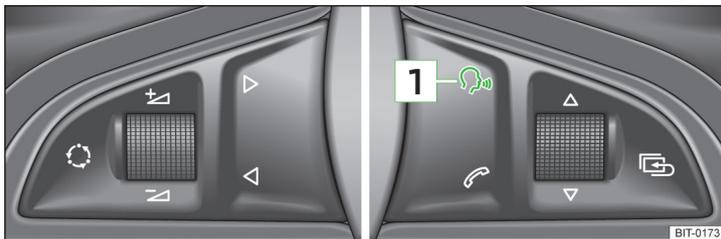

Fig. 130 Multifunction steering wheel
Briefly press button **1** » Fig. 130 on the multifunction steering wheel.
The dialogue can be started at any time by pressing the button **1** » Fig. 130 on the multifunction steering wheel¹⁾.
If the system is currently playing a message, the message that is currently being played must be terminated by pressing the button **1** » Fig. 130 on the multifunction steering wheel.
- Briefly press button **1** » Fig. 130 on the multifunction steering wheel.